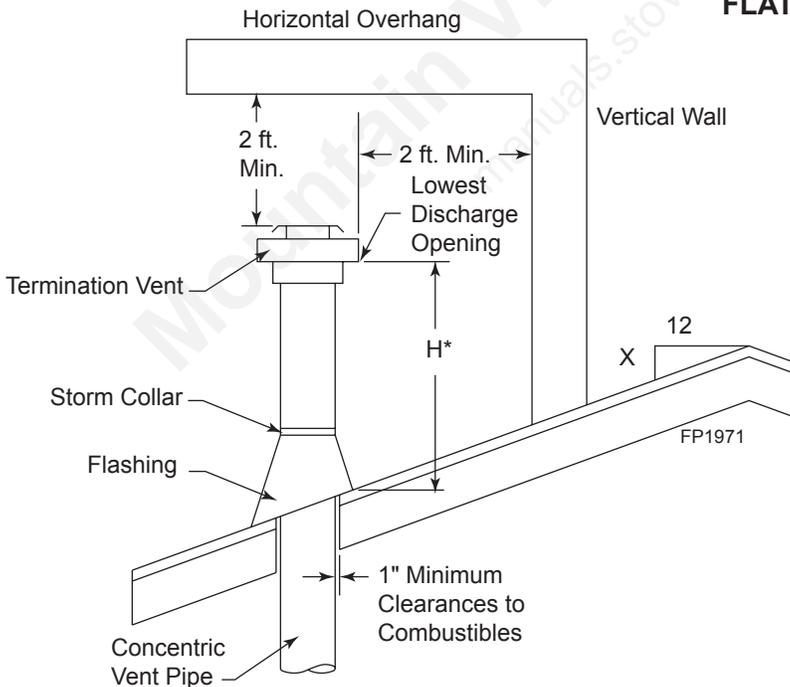

Figure 26 - Minimum Chimney Clearance
- For the minimum height of the vent above the highest point of penetration through the roof refer to Page 20, *Figure 26*.